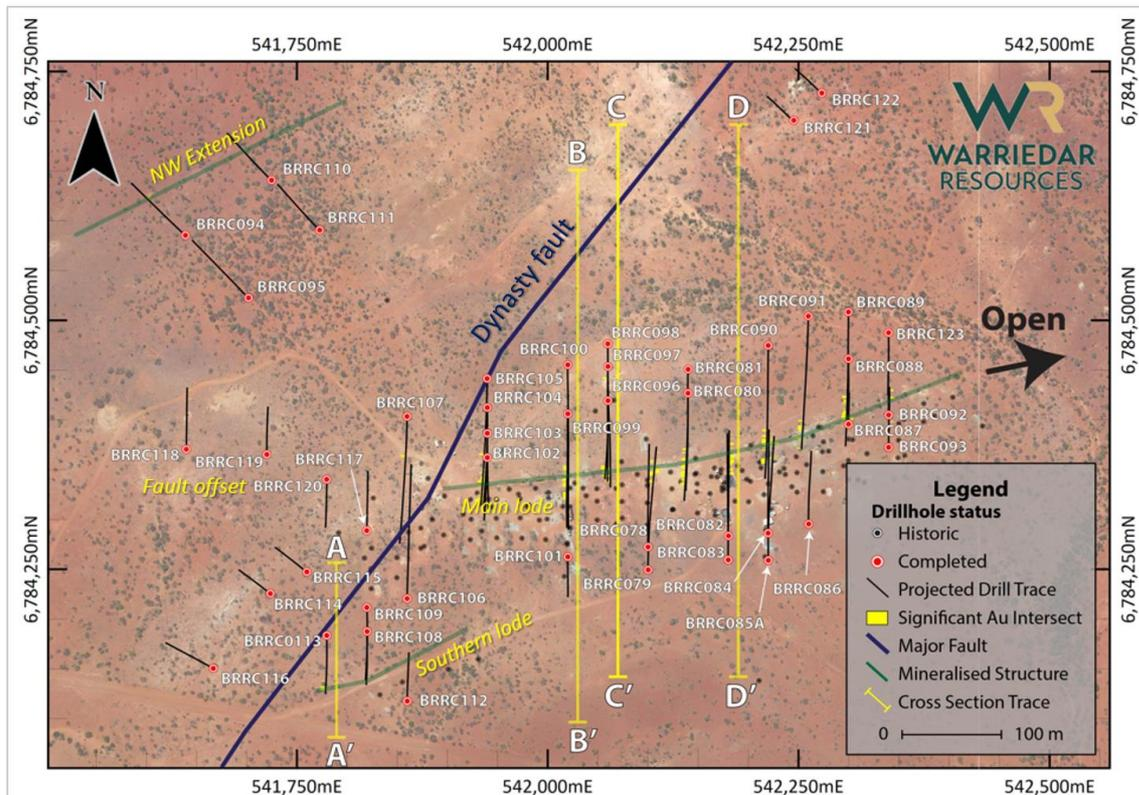

Figure 2. Plan view highlighting drill locations relative to mineralised structures (Green).
- **Fault offset:** drilling has confirmed the presence of gold mineralisation on the western side of the Dynasty fault. See Figure 2 and Table 2 (BRR118).
The majority of the 2023 Rothschild drill holes targeted the sub-vertical east-northeast striking structure that hosts the Main Lode (refer Figure 2). Drilling has now defined the Main Lode over a strike length of 500m and has extended the mineralisation to a depth of ~230m below the surface (which represents an additional 150m depth extent from previous delineation). The mineralisation remains open at depth and to the east (see Figure 3, Long Section).
A prominent north-east striking fault, the Dynasty fault, cuts through the structure hosting the Main Lode, which has not been identified on the western side of the fault to date. See Figure 2 for Dynasty fault location (dark blue line).
Figure 3: Long section (east-west) through the main lode. The section generally follows the trace of the green mineralized structure shown in Figure 2, defining the Main Lode.
Figure 4: Cross section B-B' through the western side of the main lode, highlighting the width of the mineralized envelope widening at depth. See Figure 2 for location.
Figure 5: Cross section C-C' through the central western side of the main lode demonstrating the depth extension to 230m compared to previous JORC resource (while still open). See Figure 2 for location.
Figure 6: Cross section D-D' through the central part of the main lode. At this position in the lode, the width mineralized envelope is > 40m wide. Historic intercepts are strong including 26m @ 2.82 g/t. See Figure 2 for location.
Four holes were drilled to target the NW extension (refer Figure 2: BRR0094, BRR0095, BRR0110, BRR0111). Low-level significant intercepts were returned in the two most northern holes (refer Table 1 and Figure 8). These holes help to deliver proof of concept and provide several key areas for targeted follow-up drilling.